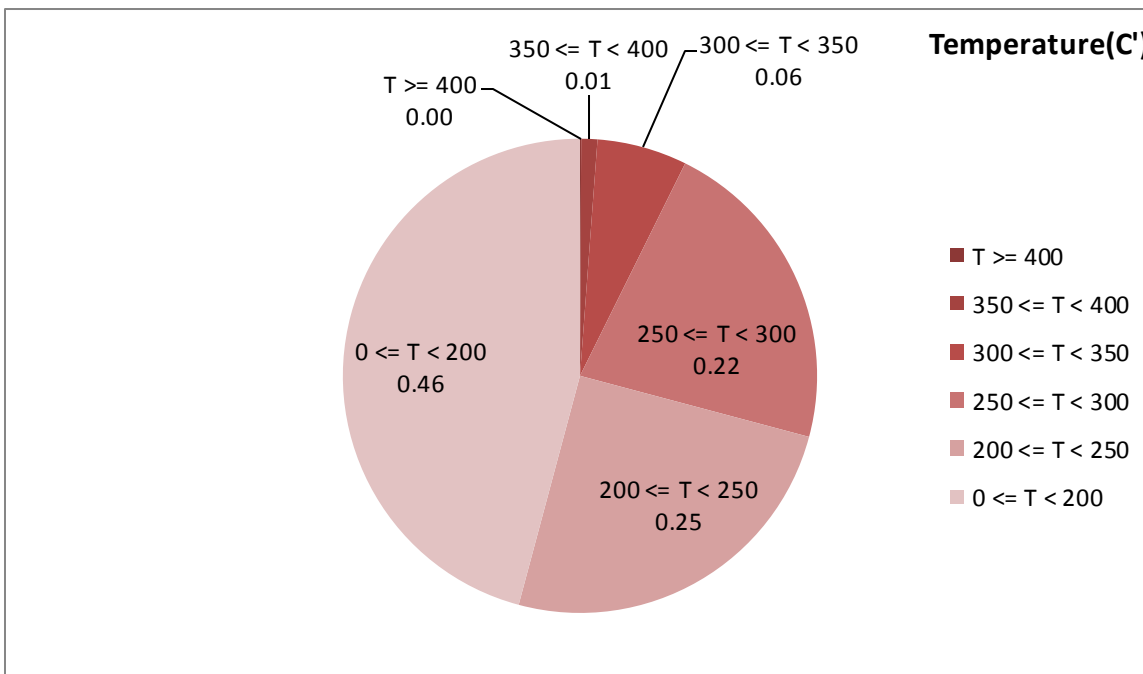

Figure 2-Temperature distribution over the working hours
- Figure 2 displays flow temperature distribution for DPF's upstream. It can be obviously observed only 0.01% of total working time temperature is above 350°C. This low temperature distribution was other effective parameter on pressure increment.